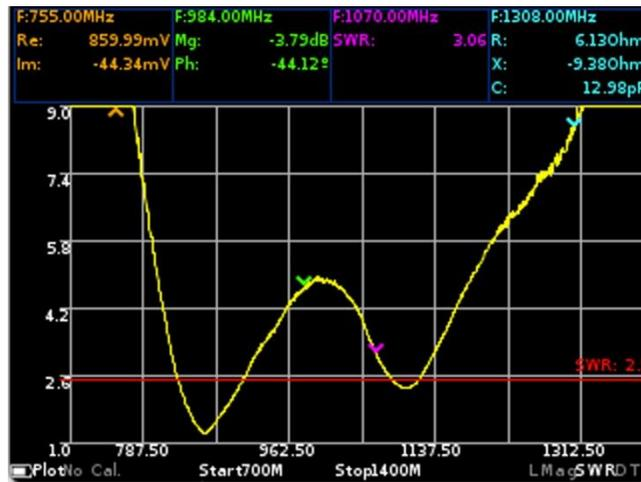

Figure 10.8 – Plot of VSWR
10.6.1. The plot shows the voltage standing wave ratio (VSWR). The plot on the device screen (Figure 10.8) is displayed as **SWR**.
In our example, in figure 10.8, the VSWR of a GSM antenna with a working frequency of 900 MHz is measured. The chart includes four markers and the display of the VSWR limit line with a value of 2.5. Above the plot displays the measurement values of the four included markers in the specified units.